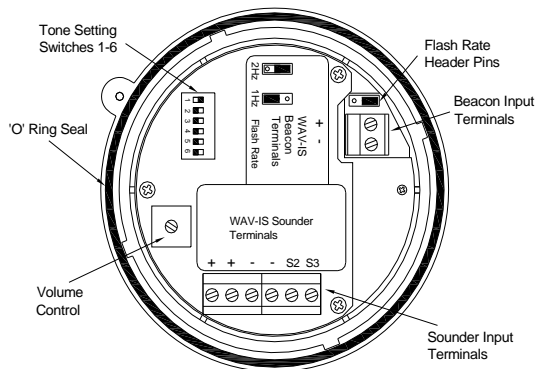

Fig 2 Location of field terminals and controls.
Power is supplied to the sounder section via the sounder input terminals + and - on the sounder PCB (see Fig 2) and the terminals have the following input safety parameters:
Power is supplied to the beacon section via the beacon input terminals + and - on the beacon PCB (see Fig 2) and the terminals have the following input safety parameters:
- Fit the required number of 20mm cable glands or conduit entries into the base and connect the field wiring to the appropriate sounder terminals as shown in section 6 and fig 2 of this manual. The power supply terminals + and - are duplicated so that sounders may be connected in parallel, or an end of line monitoring resistor may be fitted.
- Select the required sounder output tone by positioning the six switches as shown in Table 1 and Fig 2.
- Check that the 'O' ring seal is correctly located on the sounder/beacon section (see Fig. 2) and insert the sounder/beacon section into the base. Push it fully
**Tone Selection** – To select the required first stage tone set the tone switches 1 to 6 (see Fig 2) to the tone setting shown in the table below. The table also shows which 2nd and 3rd stage tones are available for use with the selected first stage tone if more than one tone output stage is required.